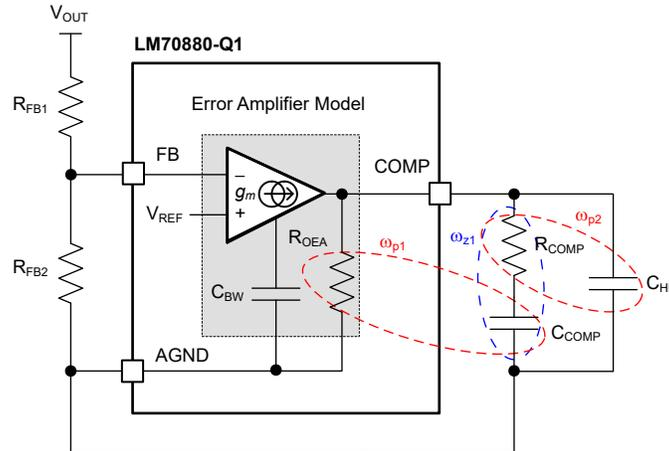

图 8-3. Error Amplifier and Compensation Network
A Type-II compensator using a transconductance error amplifier (EA) is shown in 图 8-3. The dominant pole of the EA open-loop gain is set by the EA output resistance, R_{OEA} , and effective bandwidth-limiting capacitance, C_{BW} as shown by 方程式 24.
The EA compensation components create a pole close to the origin, a zero, and a high-frequency pole. Typically, $R_{COMP} \ll R_{O-EA}$ and $C_{COMP} \gg C_{BW}$ and C_{HF} , so the approximations are valid. 图 8-3 circles the poles in red and the zero in blue.